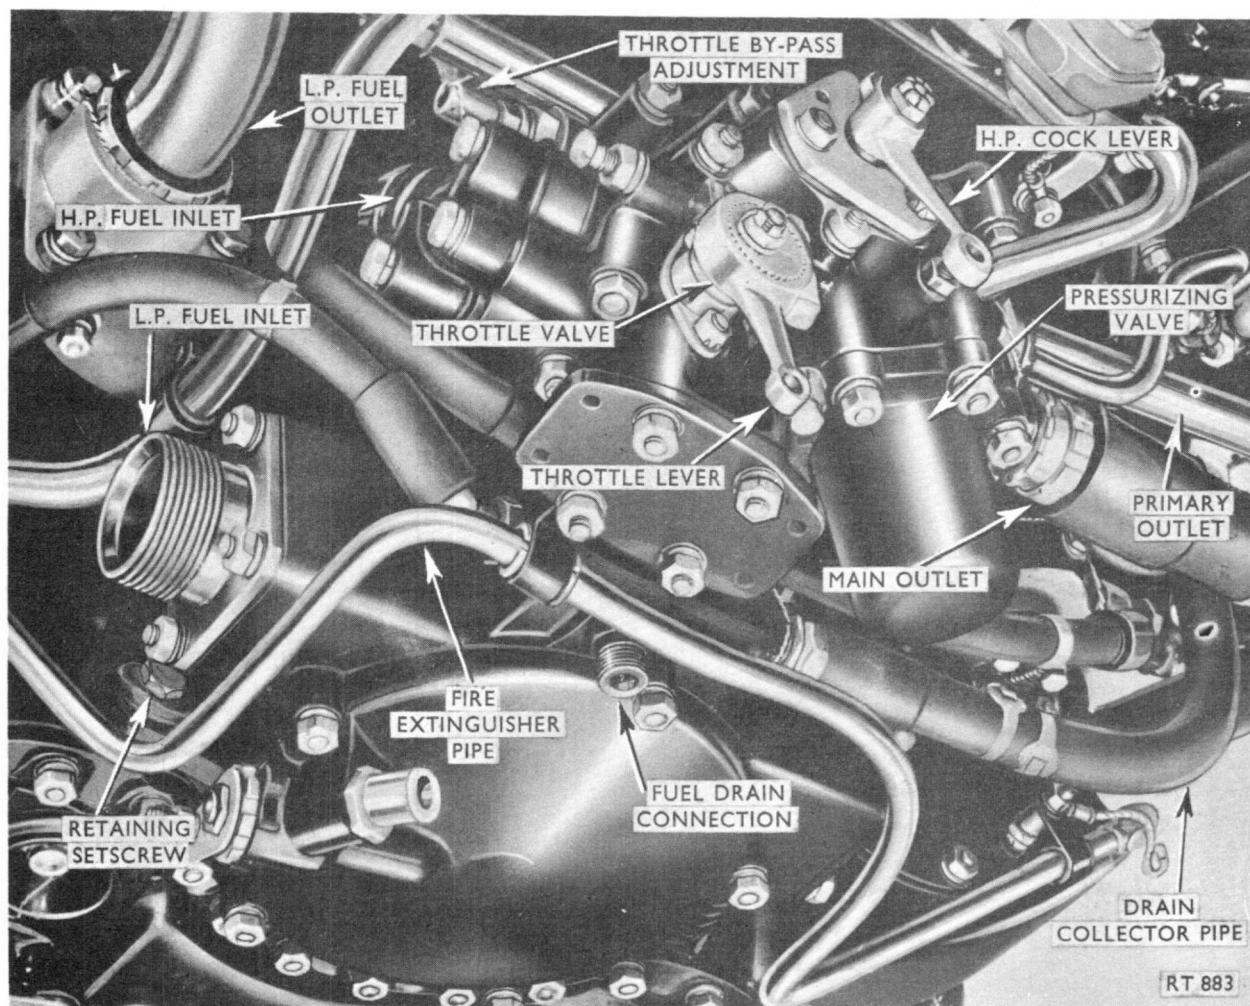

Fig. 1 Fuel control unit
3. To remove the fuel control unit (fig. 1) from the engine:—
5. If it is necessary to remove a throttle valve separately (para. 2), proceed as follows (fig. 1):—
7. If the throttle valve (fig. 1) appears stiff in operation at any time, disconnect the aircraft throttle control from the f.c.u. throttle lever and, using a spring balance applied at right-angles to the lever, measure the torque required to open and close the throttle. Reject the fuel control unit if the required torque is in excess of 3.5 lbf.
8. These instructions are given to assist in removing the pressurizing valve (fig. 1) for inspection only; renewal of the valve is not permitted (para. 2).
12. Adjust ground idling rev/min (Vol. 1, Part 2, Sect. 2, Chap. 2) at the throttle by-pass adjuster (fig. 1). Turn the adjuster, using the tool listed in Sect. 1, clockwise to decrease the idling rev/min and vice versa. One complete turn of the adjuster alters idling rev/min by approximately 250.